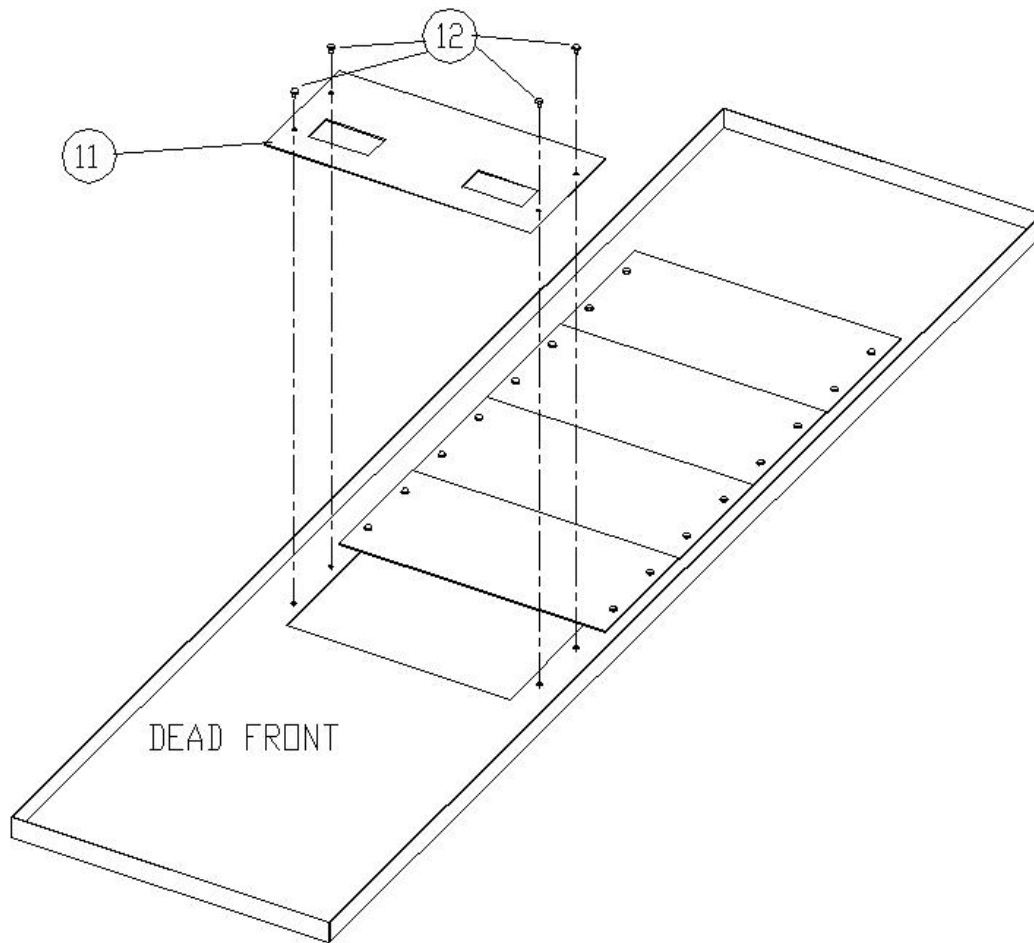

Figure 3. Attaching the shield insert to the shield for SE/TED breaker installation in A-Series® II Panelboards.
10. Place the filler plate [11] over the dead front so that the four same-size holes line up with the threaded holes of the dead front, as illustrated in Figure 3. Fasten filler plate to the dead front with four #10-32 x  $\frac{3}{8}$  screws [12] tightened to 27-36 in-lb.